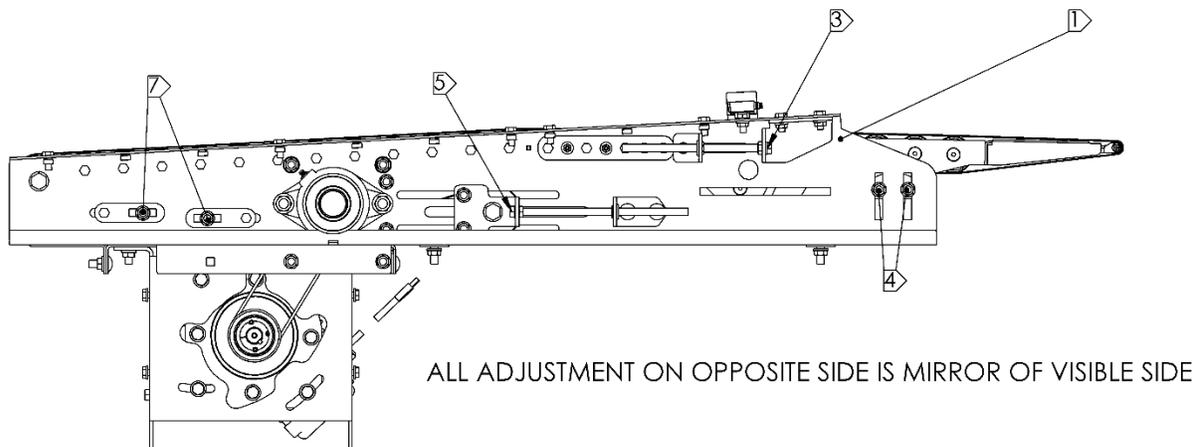

Figure 13-Side View of Knife Edge Conveyor
- a. See Figure 13 for adjustment locations. The knife edge nosebar horizontal adjustment is indicated by note flag 3 and the vertical adjustment is indicated by note flag 4
- a. See Figure 13 for location of the tensioner. The belt tensioner is indicated by note flag 5
- a. See Figure 13 for a view of the knife edge conveyor. The snub rollers are indicated by note flag 7